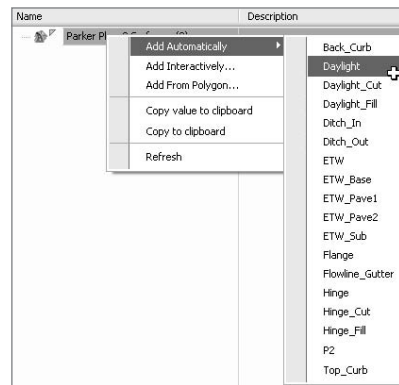

Figure 10.13
11. Right-click the surface entry on the Boundaries tab (capture) and use the Add Automatically fly-out menu to select Daylight as shown in Figure 10.13.